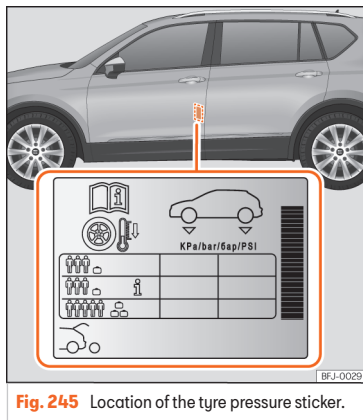

Fig. 245 Location of the tyre pressure sticker.
- Adjust tyre pressure to the load being carried by the vehicle »»» Fig. 245.
The values of the tyre pressure are shown on the sticker label located on the read frame of the front left door »» Fig. 245.
The tyre pressure must be adjusted according to the load the vehicle is carrying. If the vehicle is going to be fully loaded, increase the tyre pressure to the maximum load value shown on the sticker label »» Fig. 245.
In the case of a minimised temporary spare wheel (125/70 R16 or 125/70 R18) inflate to a pressure of 4,2 bar as indicated on the tyre pressure label »» Fig. 245.
Depending on the vehicle, tyre pressure can be adjusted to medium load to improve driving comfort [tyre pressure **i** »» Fig. 245]. When driving with comfort tyre pressure fuel consumption may increase slightly.
- **The driver is responsible for ensuring that all of the vehicle tyres are correctly inflated to the right pressure. The recommended tyre pressure is indicated on the label »» Fig. 245.**
- **Tyre pressure should be that indicated on the label when the tyres are cold at all times »» Fig. 245.**